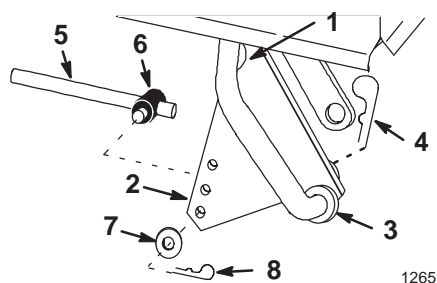

Figure 11
13. Position the notch in the lift plate around the left side tractor lift arm and slide the lift plate onto the attachment lift arm (Fig. 11).
14. Secure the lift plate with a hairpin cotter from a mower (Fig. 11).
16. Secure the trunnion with a 9/16 in. washer and medium hairpin cotter (Fig. 11).